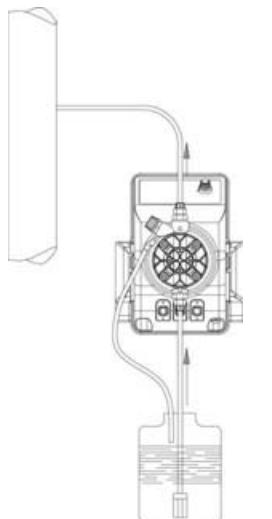
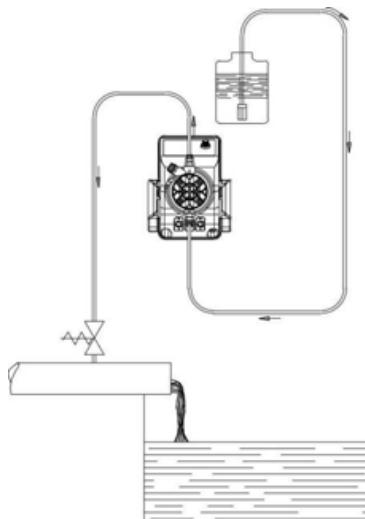

Fig. 5
Fig. 6
c.- Locate the pump as shown in fig. 5 bearing in mind that it may be installed either below or above the level of the liquid to be dosed, though the level difference should not exceed 2 meters. When the process plant in which the pump is installed is operating at atmospheric pressure (no back pressure) and the chemical tank is situated above the plant (Fig. 6), the condition of the injection valve should be checked at regular intervals, because excessive wear and tear could cause additive to drip into the plant even when the pump is shut down. If the problem persist, install a properly calibrate counter-pressure valve (C) between injection point and the valve. In the case of liquids that generate aggressive vapours, do not install the pump above the storage tank unless the latter is hermetically sealed.